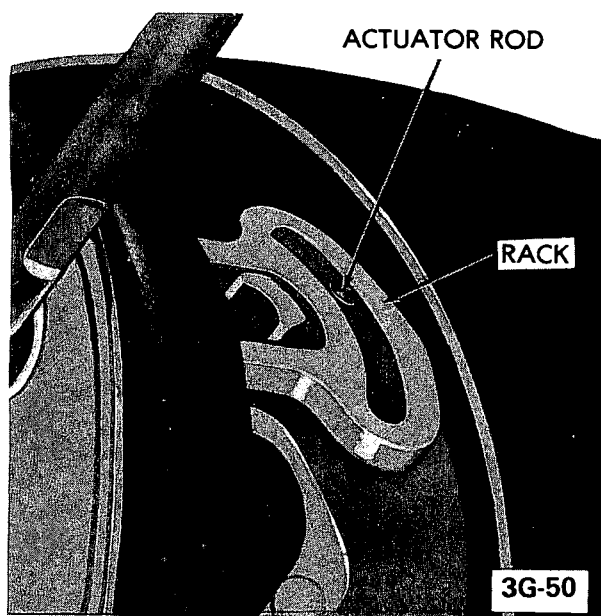

Figure 3G-117 - Installing Bearing Housing
retainer slot. Turn retainer clockwise to engage. Make sure there is grease between the guide and peg on support. See Figure 3G-106.
22. Install tilt lever opening shield in housing. See Figure 3G-110.